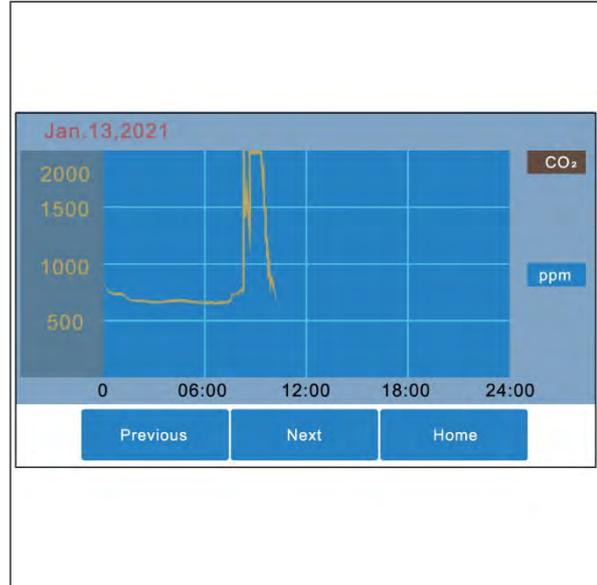

Figure 15
2. The CO₂ overview opens (Figure 15).